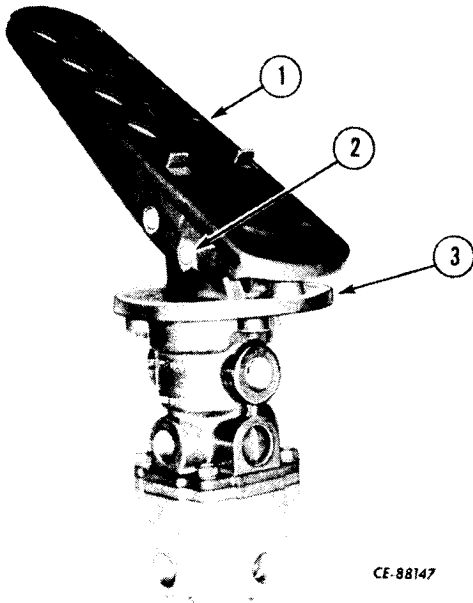

Figure 13-48B
Place treadle assembly (1, Fig. 13-48B) on mounting plate (3) and insert fulcrum pin (2). Align holes in treadle and fulcrum pin and insert cotter pin.